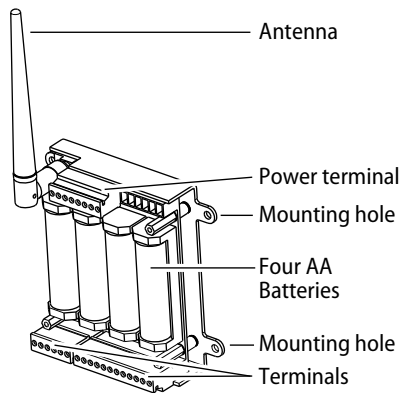

Figure 1 Wireless Access Controller, shown without cover
- 3 Screw on antenna as shown in Figure 1 so that it's vertical and upright.